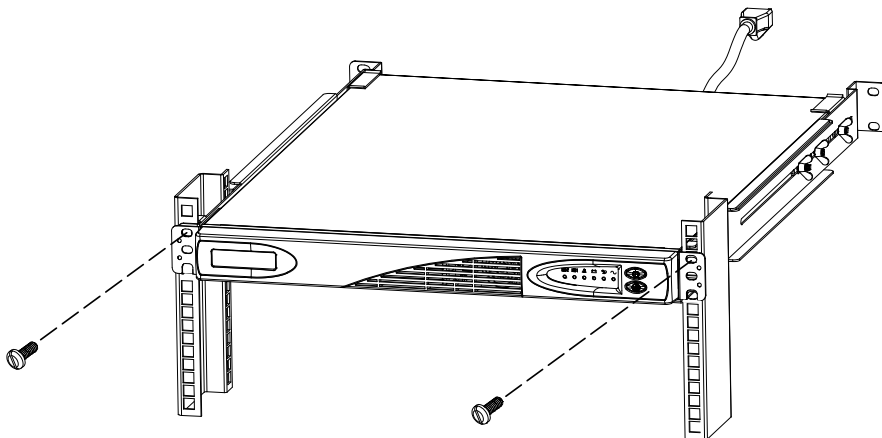

Figure 10. Securing the UPS in a 19" Rack
12. Secure the front of the UPS to the rack using one M6 × 10 screw on each side as shown in Figure 10.